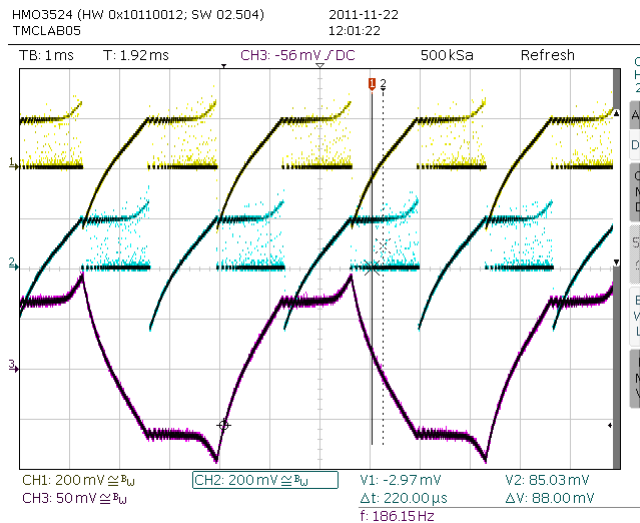

Figure 2.6 Motor operation in fullstep with slow decay only (CHM=1)
3. As fullstepping does not require high precision chopper operation, you can try to switch to slow decay only chopper – compare Figure 2.6, e.g. by setting *vhighchm* (for TMC5XXX drivers).